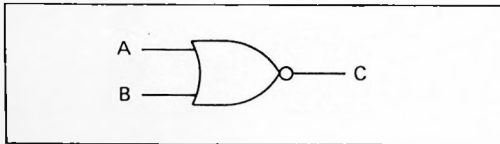

Figure C-4. Nor Logic Symbol.
d. **Nor.** As shown in Figure C-4, the Nor-gate output (C) is HIGH (+5 Vdc) when all inputs (in this case A & B) are LOW (GRD) simultaneously. When any one input or all inputs are HIGH (+5 Vdc), the Or-gate output (C) is LOW (GRD). Therefore, a HIGH (+5 Vdc) input controls the Nor-gate. See Nor Truth Table, Table C-4.